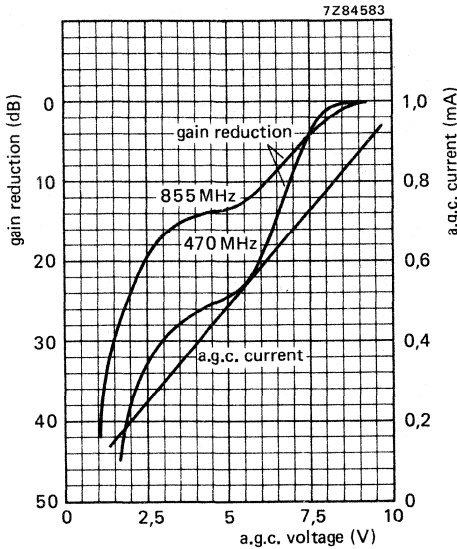

Fig. 4.
A.G.C. voltage (Fig. 4), at nominal gain + 9,2  $\pm$  0,5 V
##### A.G.C. current (Fig. 4)